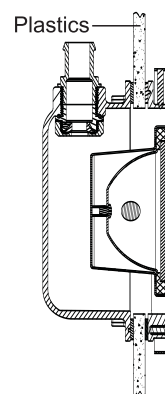

Figure 2.
- 2) The center of the mounting hub will line with the top of light lens. See Figure 2.
- 4) Wrap a length of the cord up to a maximum of 240CM long on the back of the light assembly. Wind a minimum of three (3) wraps of cord so that the last wrap stops at the top of the light. This extra cord allows you to bring the light out of the pool for revamping and servicing.
- 3) (For H100 vinyl pool only) If pool surface is to be plastered, you must allow proper concrete cutback for plaster thickness. Finish concrete surface must be flush with Mounting Spacer. CAUTION: Finish area surrounding Mounting Spacer MUST be flat and flush with the face of Mounting Spacer, this ensures a snug fit between light and wall, see Figure 2.
- 4) (For H100 vinyl pool only) Rotating Locking System ensures light is secured to bracket, see Figure 2.